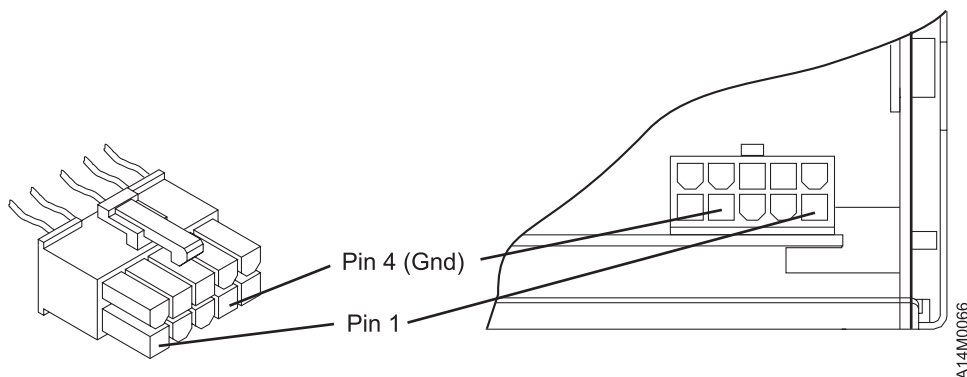

Figure 2-1. Pneumatic Motor Cable to Card Pack Cabling
3. On the card pack connector, measure the resistance from ground (pin 4) to pins 5, 9, and 10. The resistance should be **greater than 9K ohms** at all three pins. See Figure 2-1 on page 2-4.
On the pneumatic motor cable plug, CD1, measure the resistance from ground (pin 4) to pins 5, 9, and 10. The resistance should be **infinity** at all three pins. If the resistance is less than infinity, the pneumatic assembly is defective also. See Figure 2-1 on page 2-4.